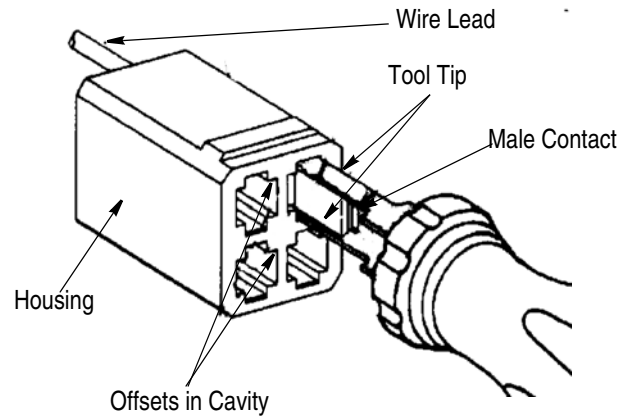

Figure 3
2. Keeping sections of handle separated, slide tool tips over male contact and into offsets in cavity. See Figure 3.